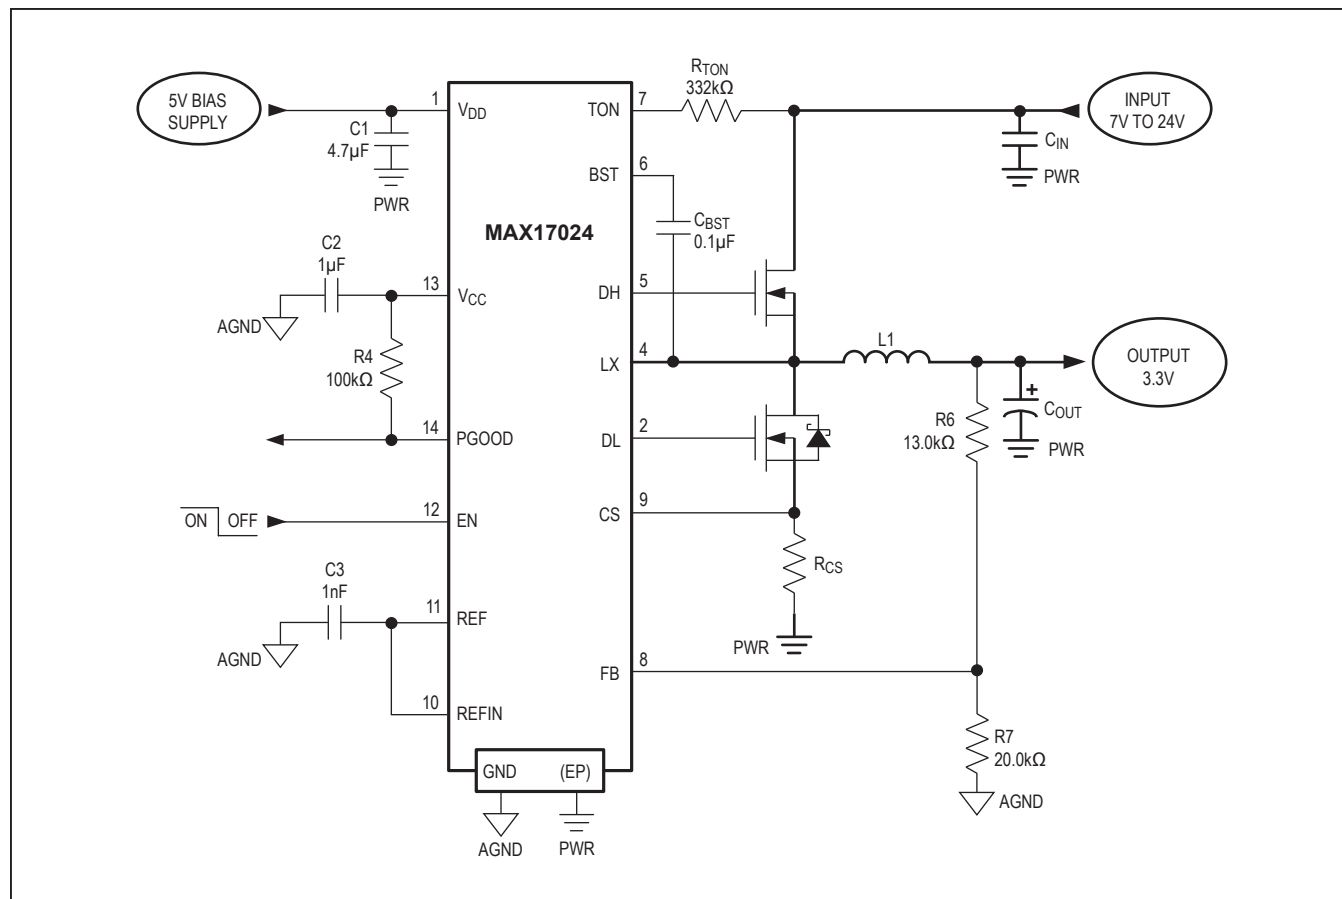

Figure 3. High Output-Voltage Application Using a Feedback Divider
Although REFIN is limited to a 0 to 2V range, the output-voltage range is unlimited since the MAX17024 utilizes a high-impedance feedback input (FB). By adding a resistive voltage-divider from the output to FB to analog ground (Figure 3), the MAX17024 supports output voltages above 2V. However, the controller also uses FB to determine the on-time, so the voltage-divider influences the actual switching frequency, as detailed in the On-Time One-Shot section.